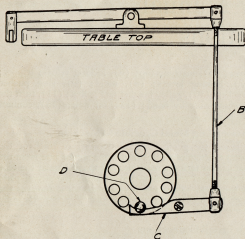

Fig. 1
Figures 1 and 2 show how to attach the starting mechanism and its operation.
Pressing up on the lever (A) (Figures 1 and 2) raises the rod (B) which draws the finger (C) away from the clutch pin (D). The pin is pushed into the first one of ten contact holes in the clutch disc by a spring and makes one revolution, riding out on the finger (C) when it is completed. Adjustment of the starting mechanism is made at the rod (B).